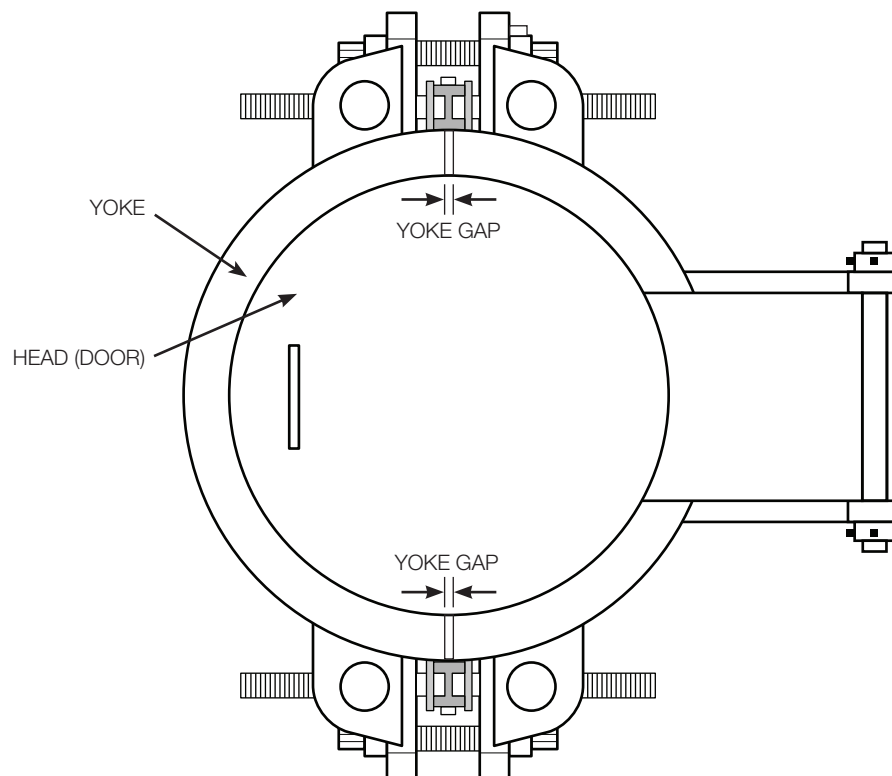

FIGURE 17: YOKE GAP
8.3 Tighten the Drawbolts so the Yoke Gap between yoke halves are within $\pm 1/16$ " of the value stamped on the nameplate (see Figure 3) and both the top and bottom Yokes Gaps are equal to each other. The Drawbolts and the Safety Bolts must be tightened to the torque that is stamped on the nameplate. These torque values are mandatory to ensure safe operation of the closure and to insure proper preloading to the faces of the head and shell. (See Figure 17)